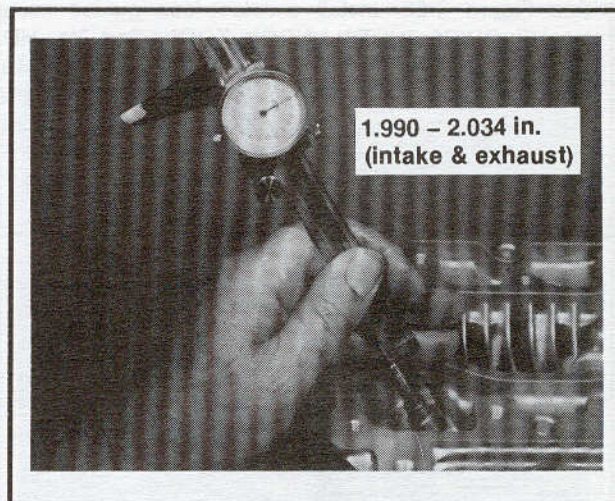

Figure 3-26. Measure Valve Stem Protrusion
6. See Figure 3-26. Measure the valve stem protrusion from the cylinder head to the top of the stem. If valve stem protrudes more than 2.034 in., the valve or seat must be replaced.
7. See Figure 3-26. If valve stem protrusion is within the proper range, the valves and seats are ready for lapping.